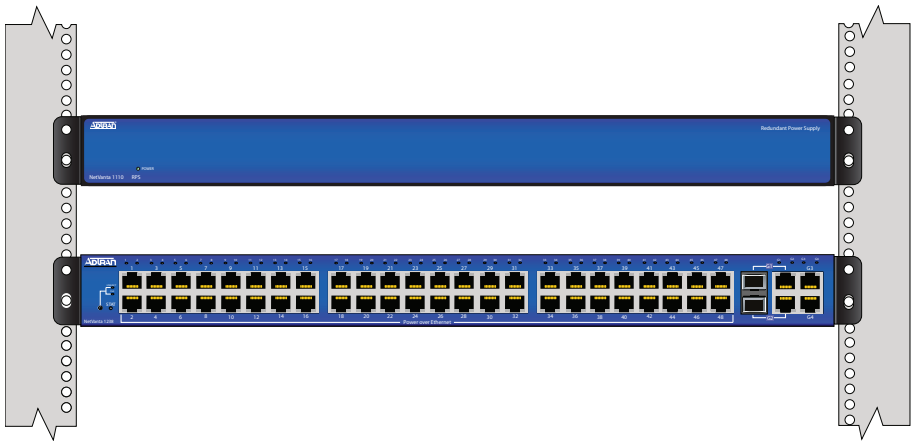

Figure 1. Rack Mounting the RPS
3. Position the RPS in a stationary equipment rack either above or below the NetVanta 1238 PoE (see Figure 1).